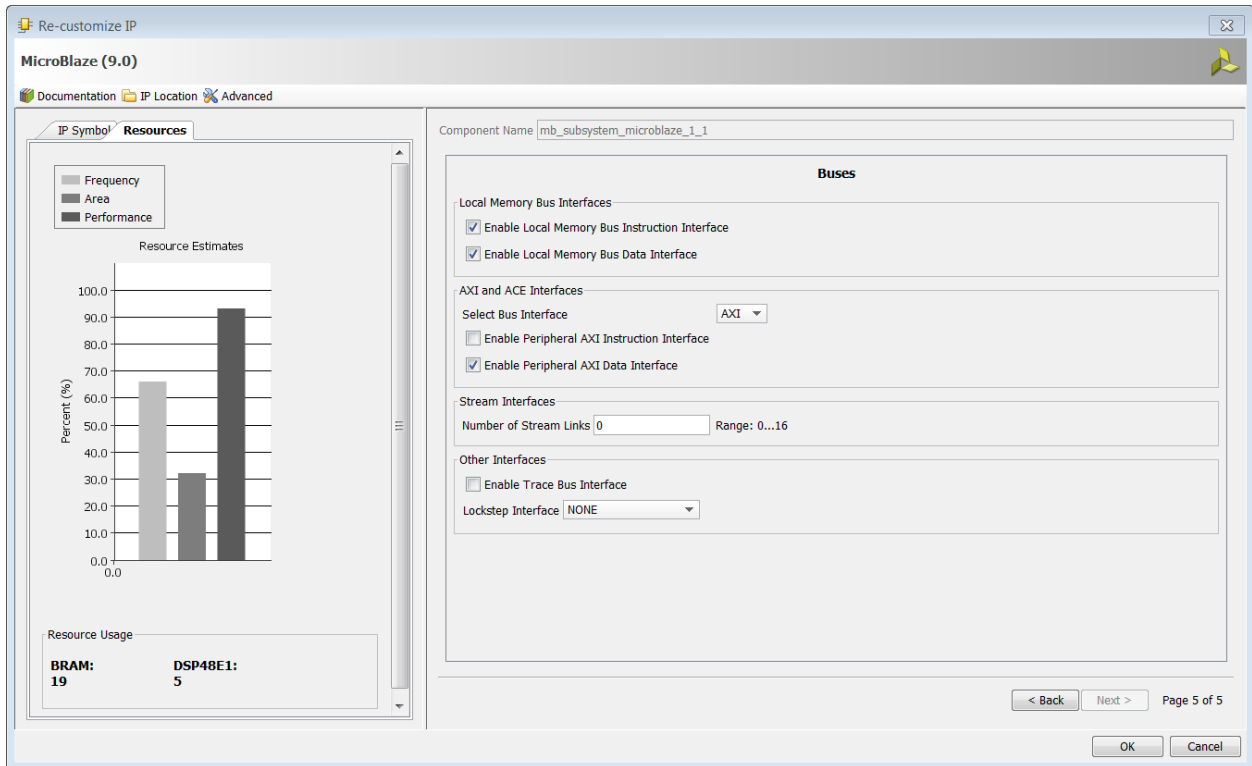

Figure 87: Re-customize IP
- On Page 5 of the Re-customize IP dialog box, ensure that the **Enable Peripheral AXI Data Interface** option is checked, and click **OK** to re-configure the MicroBlaze processor (Figure 87).